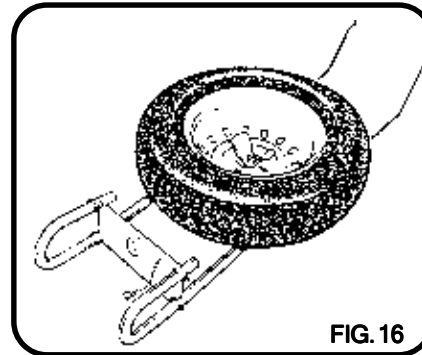

FIG. 16
Each AL-KO caravan/trailer chassis has a set of punched holes behind the axle to enable fitting of an AL-KO telescopic spare wheel carrier (Fig. 16)
**Spare Wheel Carrier (Fig. 16)**